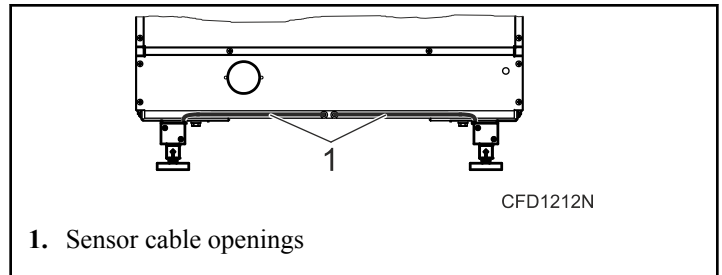

Figure 20
7. Fit the sensor cables into the prepared openings with cable fixtures. Refer to *Figure 20*.